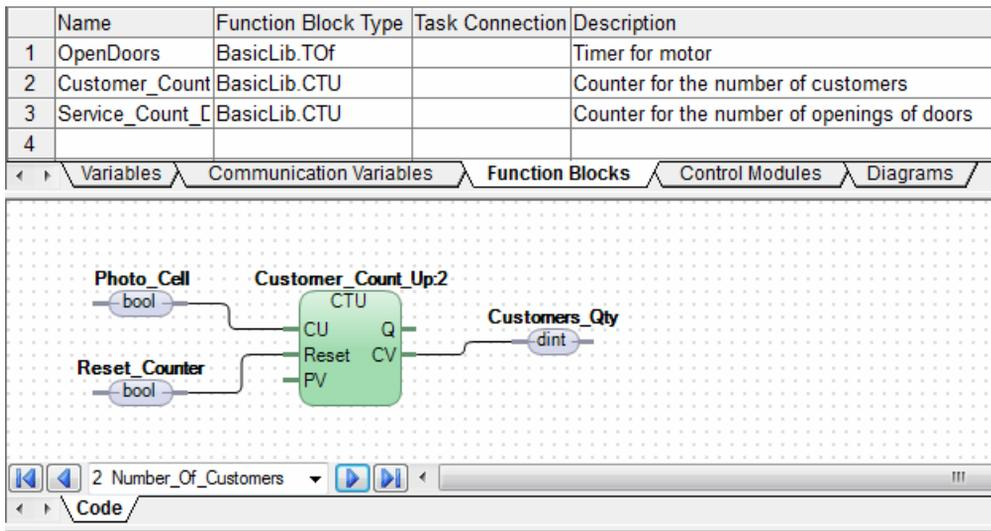

Figure 28. Variable connections to Customer\_Count\_Up Function Block Type
2. Connect the variables to the **Customer\_Count\_Up** Function Block type as in the Figure 28.